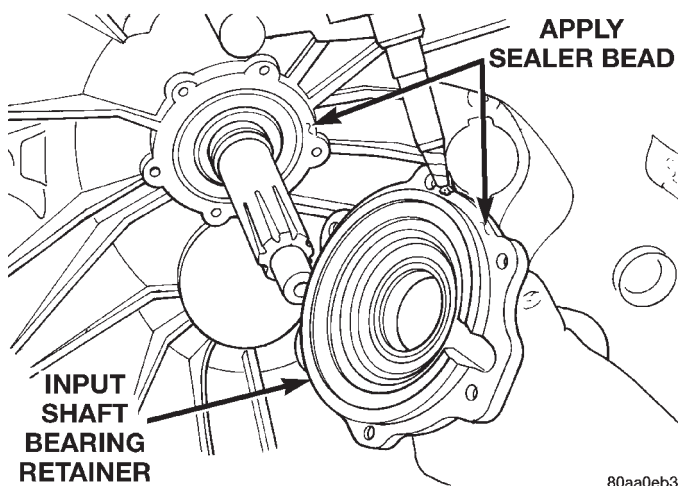

Fig. 131 Applying Sealer To Bearing Retainer And Housing
(19) Apply bead of Mopar® silicone sealer, or equivalent, to flange surface of front bearing retainer (Fig. 131).